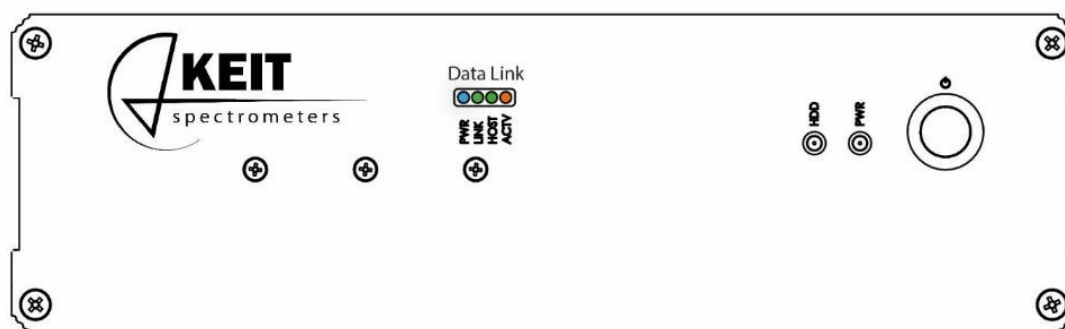

Figure 5: Front panel of Keit controller
- Check that the green and orange lights on the controller are present (Figure 5)